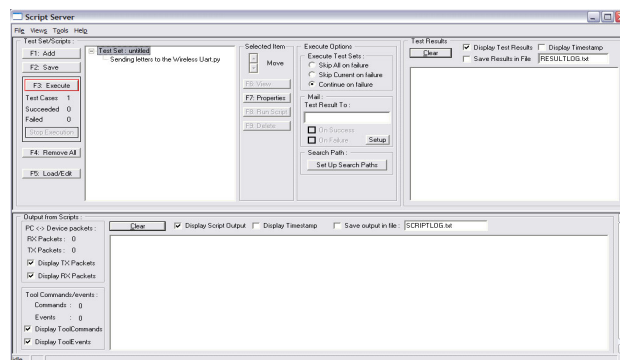

Figure 48. Running the Script
11. As shown in Figure 48, click on the Execute button to run the script.